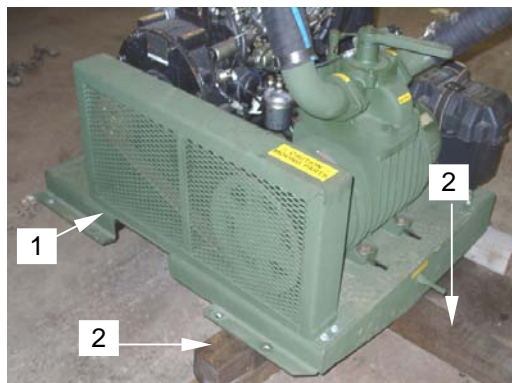

Figure 26. Setting Skid onto Dunnage
13. Lift engine/vacuum pump skid (**figure 26, item 1**) off the trailer frame and set it upon dunnage (**figure 26, item 2**) (preferably lengths of 2-inch x 4-inch lumber).